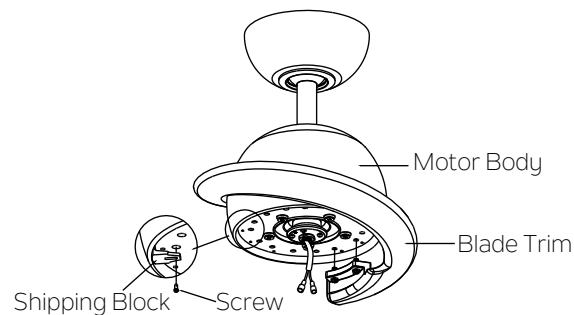

Fig. 15
**Step 1.** Remove and discard the shipping block by removing the screw. Line up the holes in the blade trim with the holes in the bottom of the motor body (marked A-A). And tighten them with two pre-installed screws provided. Repeat steps for the remaining blade trim. (Fig. 15)